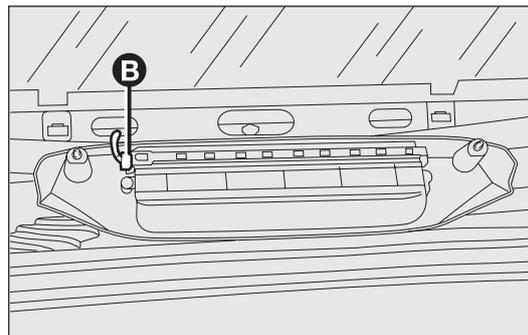

fig. 159
- disconnect the connector B-fig. 159 and remove the light unit;